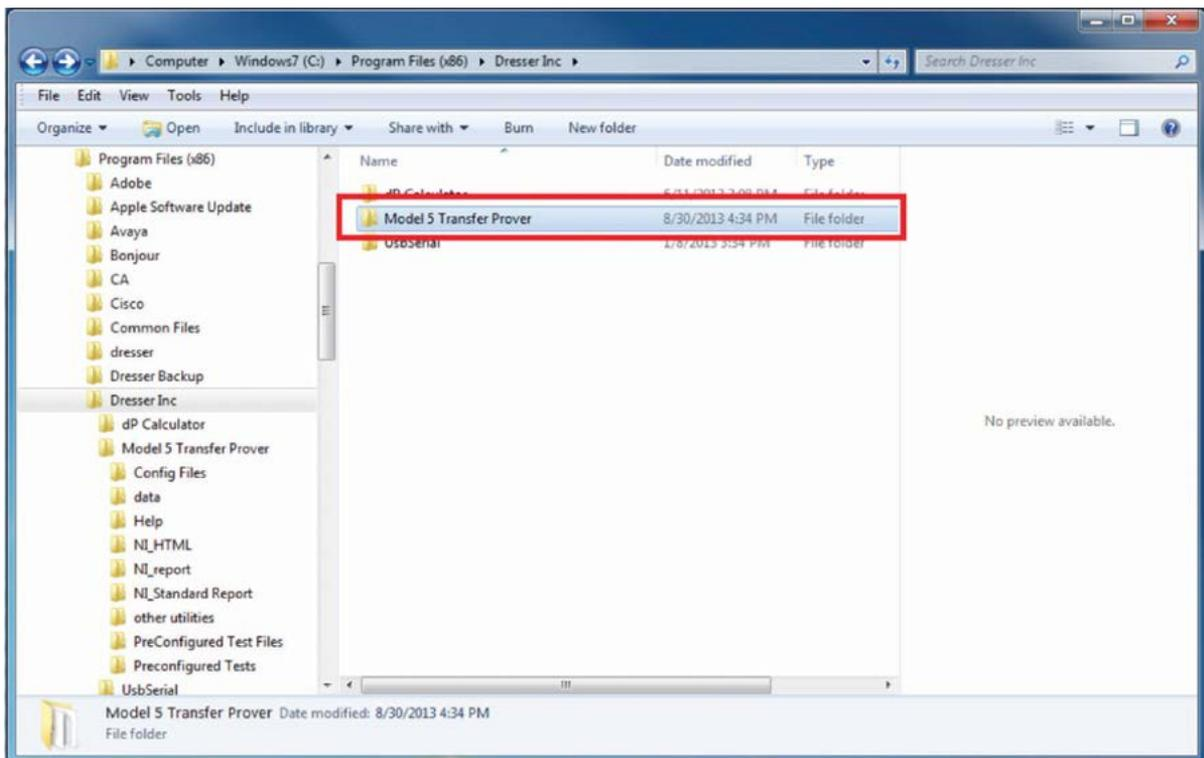

Figure 13: Find “Model 5 Transfer Prover”
13. Within “Dresser Inc”, select the folder entitled “Model 5 Transfer Prover” as shown in **Figure 13**.